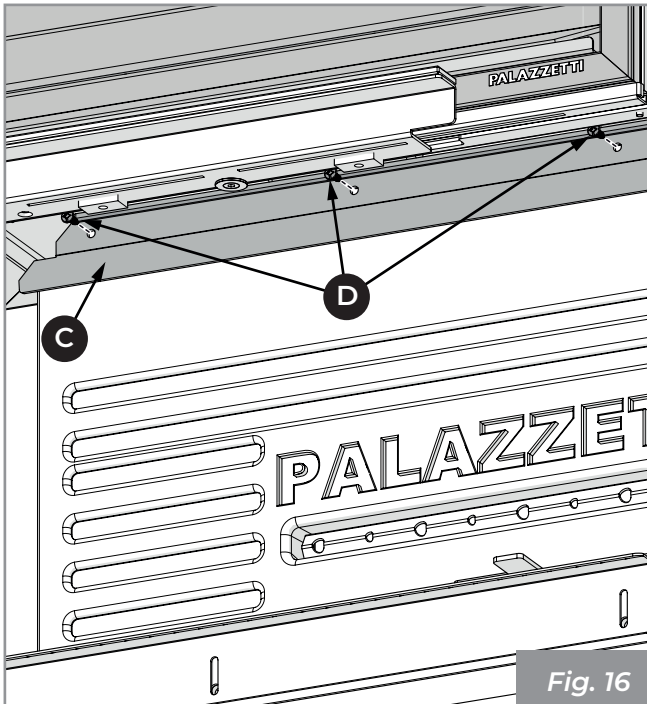

Fig. 16
- 2) Block the refractory with the bracket (C) fixing it with the appropriate screws (D) (Fig. 16).